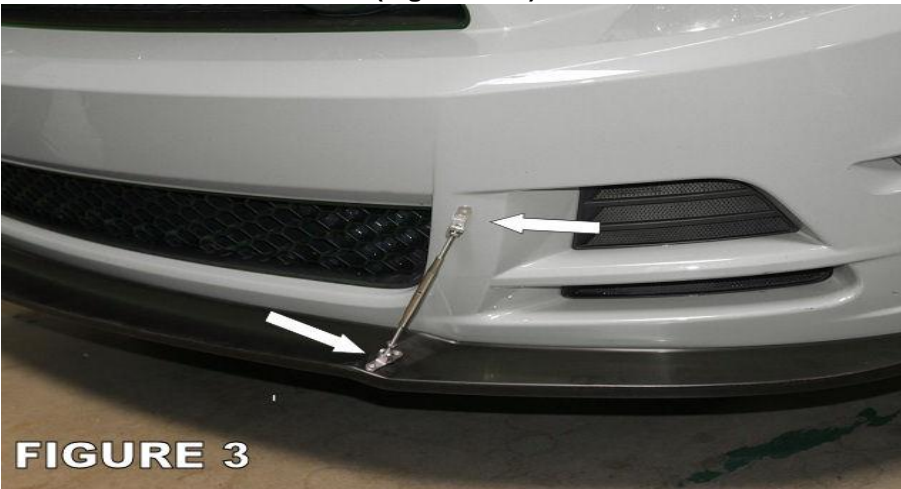

FIGURE 1
1. On the back of the splitter there is an indentation. This is where you will apply the double sided tape. This surface has to be CLEAN and DRY for the tape to properly adhere. A residual-free cleaner is recommended (*e.g. Wurth Clean-Solve*) to prepare the surface. The surface of the vehicle should also be cleaned for proper adhesion. (See Fig.1) Next you will use the adhesion promoter provided where the tape will go on the splitter and on the vehicle . When applying the tape make sure the the tape is smooth and wrinkle free. It is best to use 3 or 4 different pieces on the long sections rather than 1 long piece. You only get one shot at putting the tape on when using the adhesion promoter. So make sure the tape is on correctly .